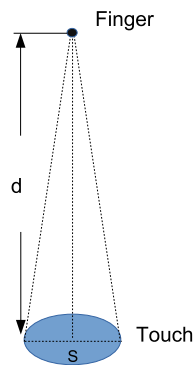

Figure 39-6. Sensing Area
- The maximum detection distance (d) is 16 cm with a sensing area of 20 cm² (S), where d is positively correlated with S as shown in Figure 39-6.